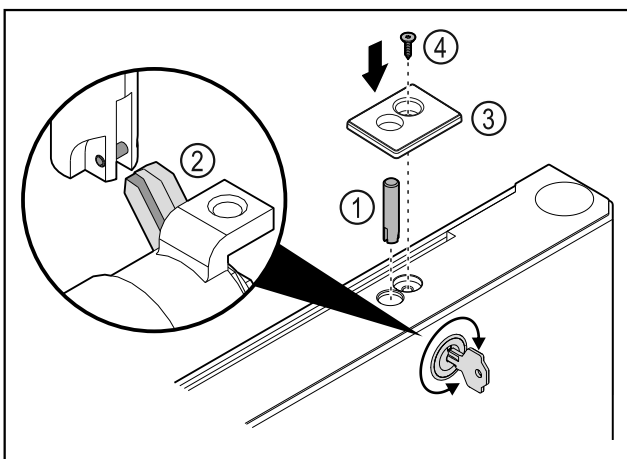

Fig. 36
- ▶ Put in the lock bolt Fig. 36 (1).
- ▶ Turn the lock slightly so that the lock bolt Fig. 36 (2) engages in the slot of the lock.
- ▶ Put in the cover Fig. 36 (3).
- ▶ Insert the screw Fig. 36 (4).